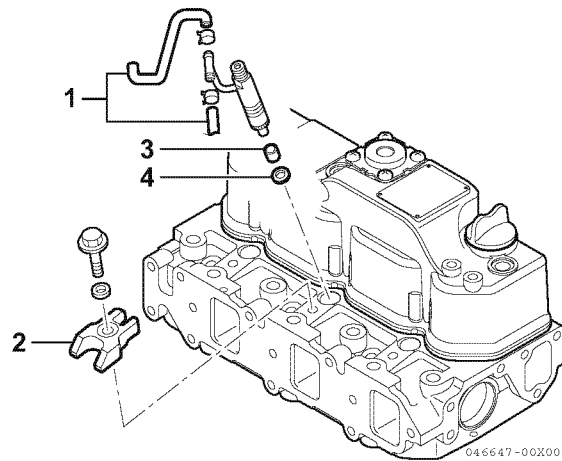

Figure 7-44
3. Remove the return fuel hoses (**Figure 7-44, (1)**) from one side of each fuel injector.
4. Remove the bolts and washers that secure the fuel injector retainers (**Figure 7-44, (2)**) to the cylinder head.
7. Remove the injector nozzle protector (Figure 7-44, (3)) and seat (Figure 7-44, (4)) from the cylinder head.